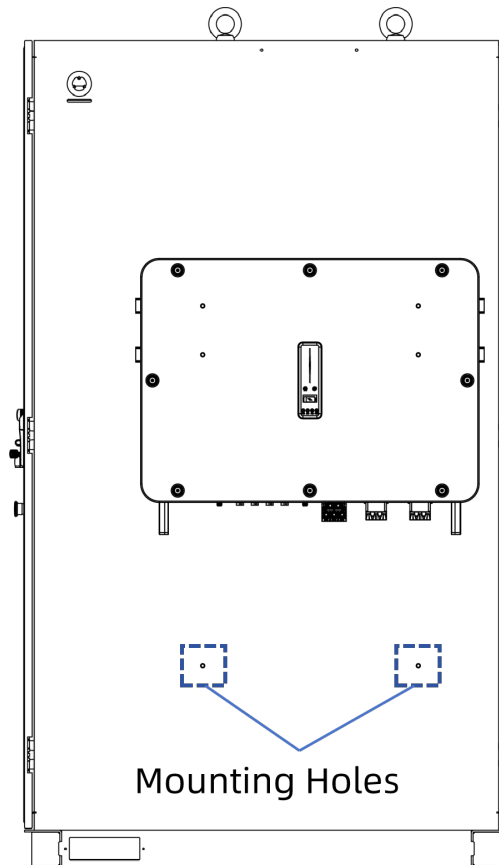

Figure 7-4: Mount holes of the cover
After completing electrical connections, install the cable protective cover on the right side panel of the cabinet. Two mounting holes are shown in Figure 7-4.
1. Align the mounting bracket with the holes on the cabinet as shown in Figure 7-4 and secure the bracket to the cabinet with M10 screws.